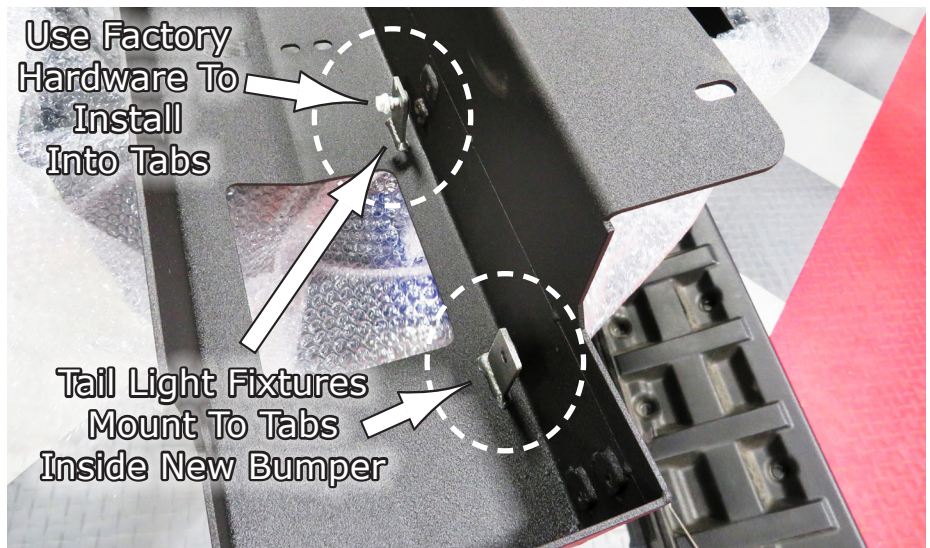

Fig.8
8. The next thing you will need to do is to install the tail light fixtures, you just took off, onto your new Bumper. See **Fig.8**. Your **Factory Tail Light Fixtures** will mount to the **Tabs** on the inside of the Bumper using the **Factory Hardware** you removed previously, as shown in **Fig.8**. The next steps will show you mounting them in more detail.